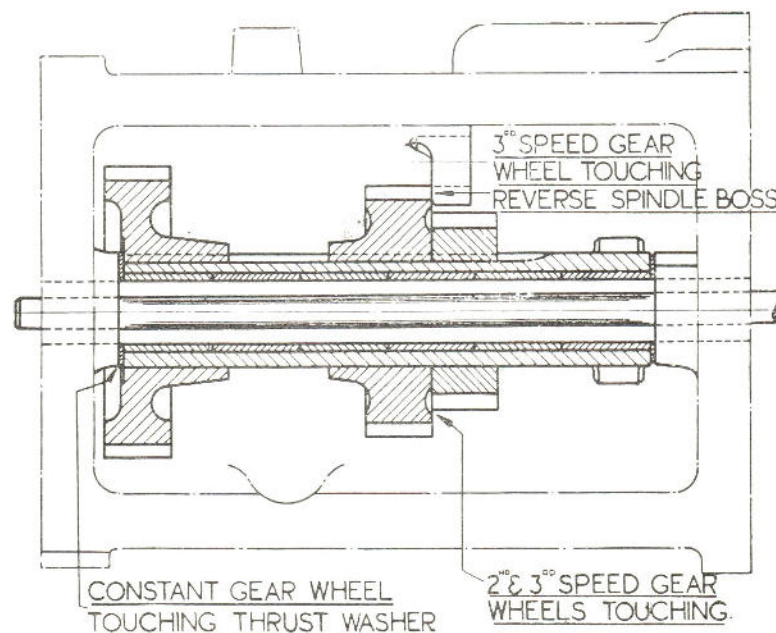

Fig. 49 Position of countershaft gears prior to engagement with mainshaft.
10. Before assembling the mainshaft and constant pinion shaft in the gearbox casing assemble the countershaft gears in their correct position as given in Fig. 49. Fit